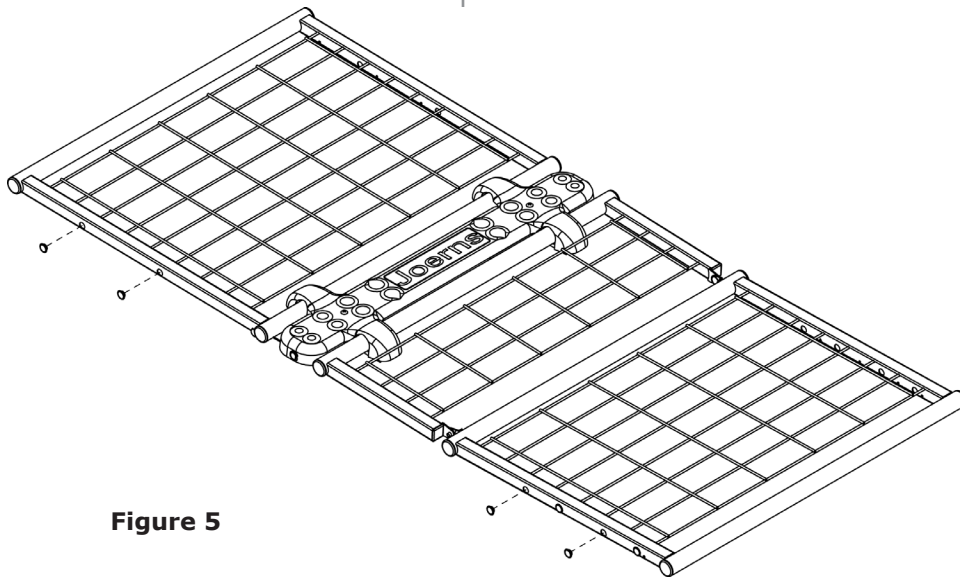
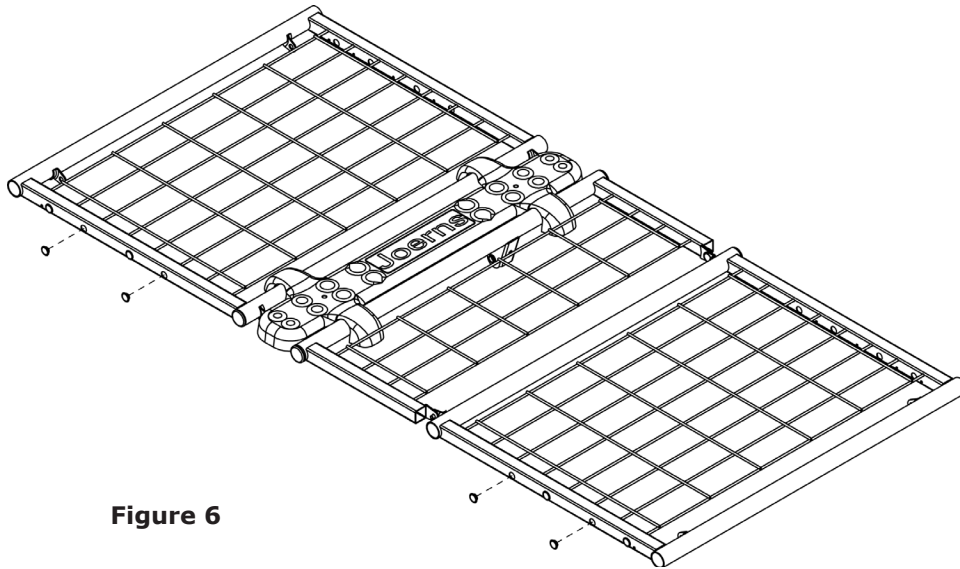

Figure 5
Figure 6
1. Remove plugs from holes as shown in Figure 5 for 80" bed and Figure 6 for 76" bed.